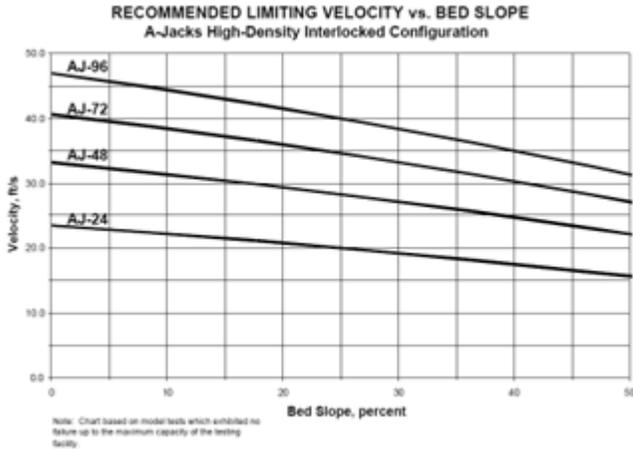

Figure 4. A-Jack Sizing Nomograph
Design nomographs developed by Ayres Associates (Ayres, 1999), illustrated in Figure 4, are used to determine the appropriate A-Jack size as a function of the approach velocity at the bridge opening. The extent of coverage of the A-Jack system (W) is determined based on recommendations presented in the NCHRP Report 587 (TRB 2007) and calculates at 1.25 times the predicted depth of scour. When design conditions require, the A-Jack system may be excavated, at a maximum 1:1 (H:V) slope, to the depth of potential scour. Abutment scour countermeasure designs for wing-wall abutments should extend a minimum of $1.5W$ upstream and $1.0W$ downstream of the abutment wall. It is noted that coverage layout may vary with project constraints and objectives and engineering judgment should be applied.
- Use Figure 4 to determine the required A-Jack size.
- From A-Jacks Nomograph (Fig.4)
- ✓ Limits (W) = 1.25 x 18-ft = 23-ft